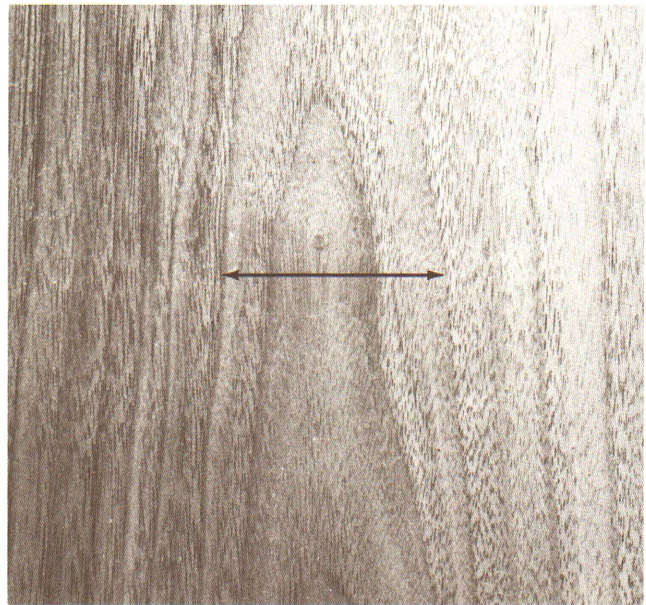

Figure 9—Sliced black walnut veneer. Narrower separation of growth ring ends.
18. Wood purplish brown to chocolate color, figure prominent on tangential face, surface dry to touch when rubbed with thumb, distinct odor. (Fig. 9) ..... **Black Walnut**